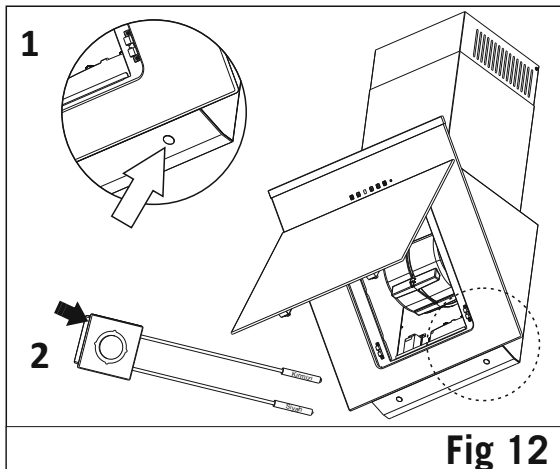

Fig 12
- LED bulb does not operate is possible to remove as shown in **Figure 12**
Note: Remove the holder on the LED bulb as shown in **Figure 12/2** . Put the new LED bulb on the holder housing of the LED bulb you removed as shown in **Figure 12/1** .